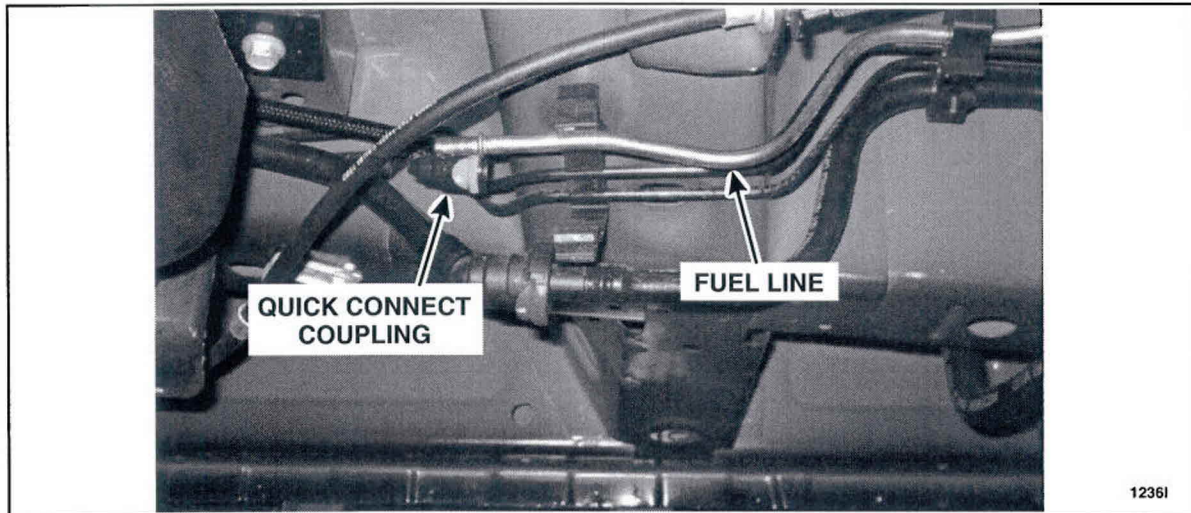

FIGURE 7
12. Disconnect the fuel jumper tube quick connect coupling from the fuel line. For additional information, refer to WSM Section 310-00. See Figure 7.
4. Connect the fuel jumper tube quick connect coupling to the fuel line. For additional information, refer to WSM Section 310-00. See Figure 7.